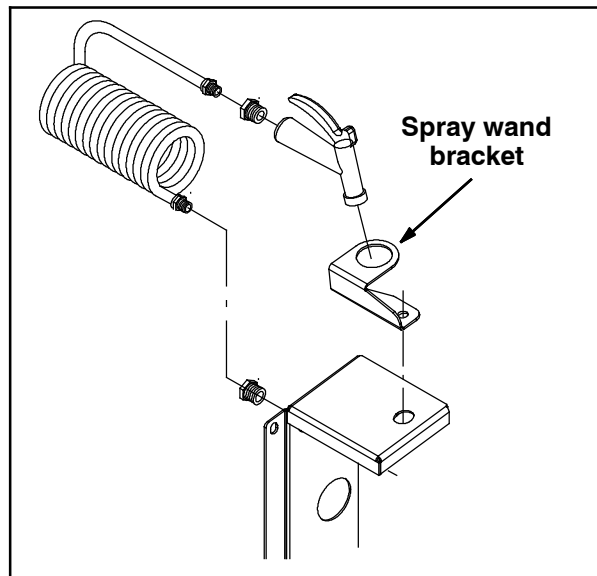

FIG. 3
4. **For machines equipped with spray wand option only:** Remove the spray wand bracket from the machine. Set the spray wand bracket aside. (Fig. 3)